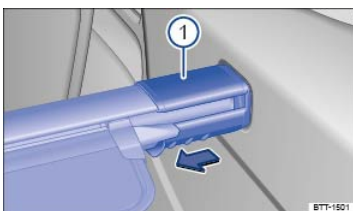

Fig. 157 In the luggage compartment: Removing the luggage compartment cover.
- Push the retainer for the luggage compartment cover ⇒ Fig. 157① in the direction of the arrow.
- Push the luggage compartment cover retainer ⇒ Fig. 157① into the right-hand mounting.